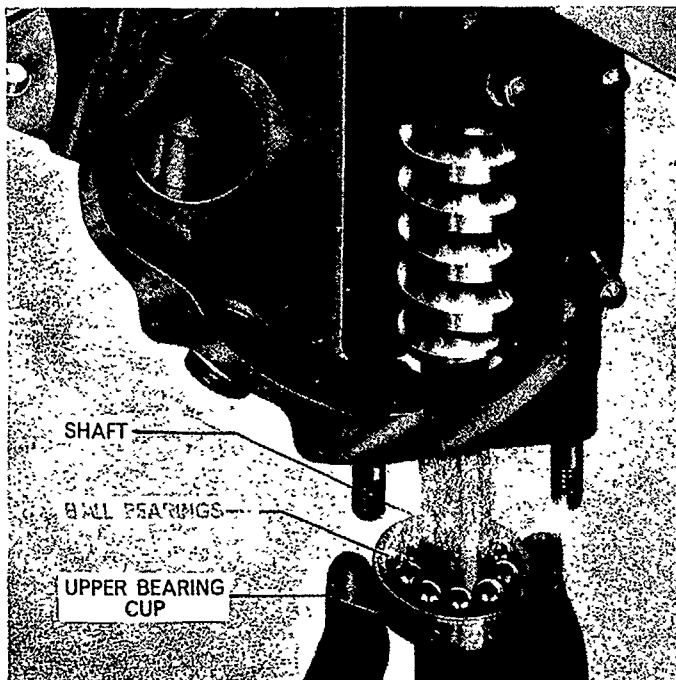

Figure 16
5. Insert the assembly taking care not to displace the ball bearings. Locate the upper ball race over the shaft and raise the race until it reaches the waisted section of the shaft below the worm. Apply grease around the race to retain the ten upper ball bearings which may now be positioned, Figure 16, then fit the race and bearings in the seating in the throat of the steering gear housing.